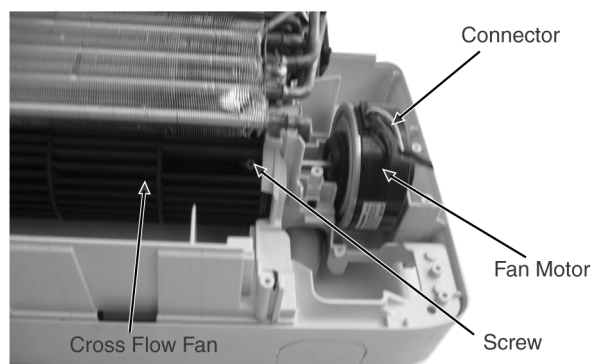

Fig. 10
- Remove the screw at the Cross Flow Fan. (Fig. 10)
To reinstall the Fan Motor, please adjust the connector location is positioned 90° with Fan Motor before fixing Control Board. (Fig. 10)